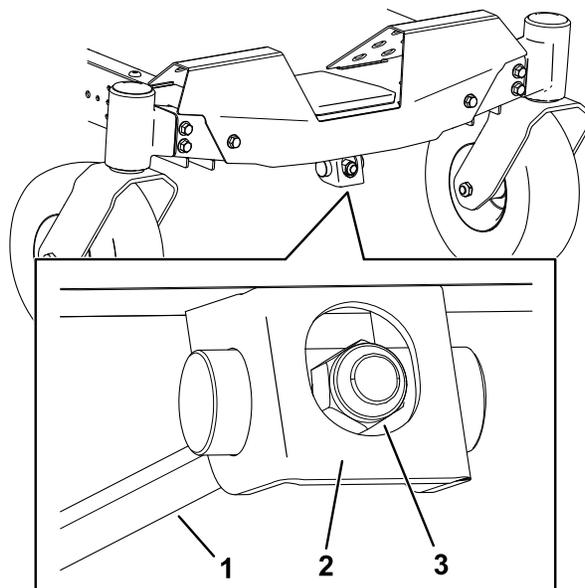

Figure 64
- Rotate the adjustment nut in the front of the mower (Figure 64).